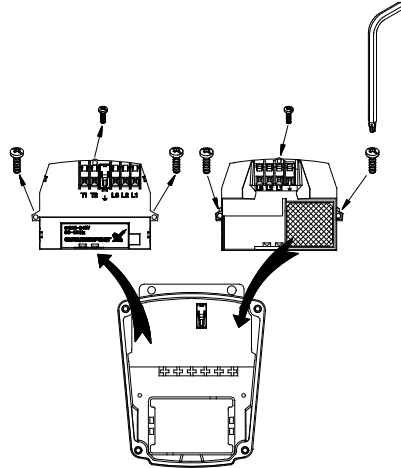

Fig. 2
4. Replace the existing module in the terminal box by the new one, see fig. 2.